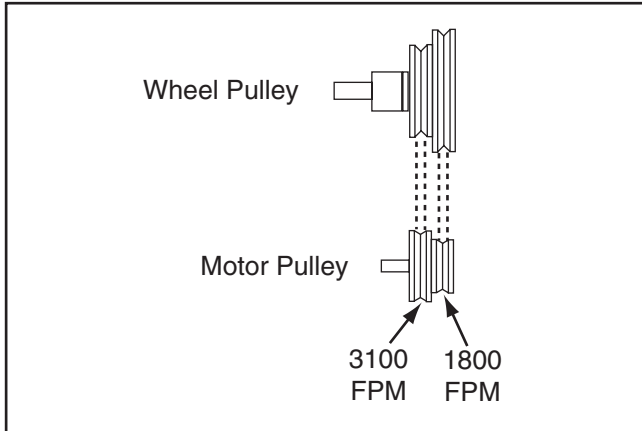

Figure 46. Belt positions for different speeds.
- Position the belt in the pulley grooves needed (see **Figure 46**) for the desired speed.